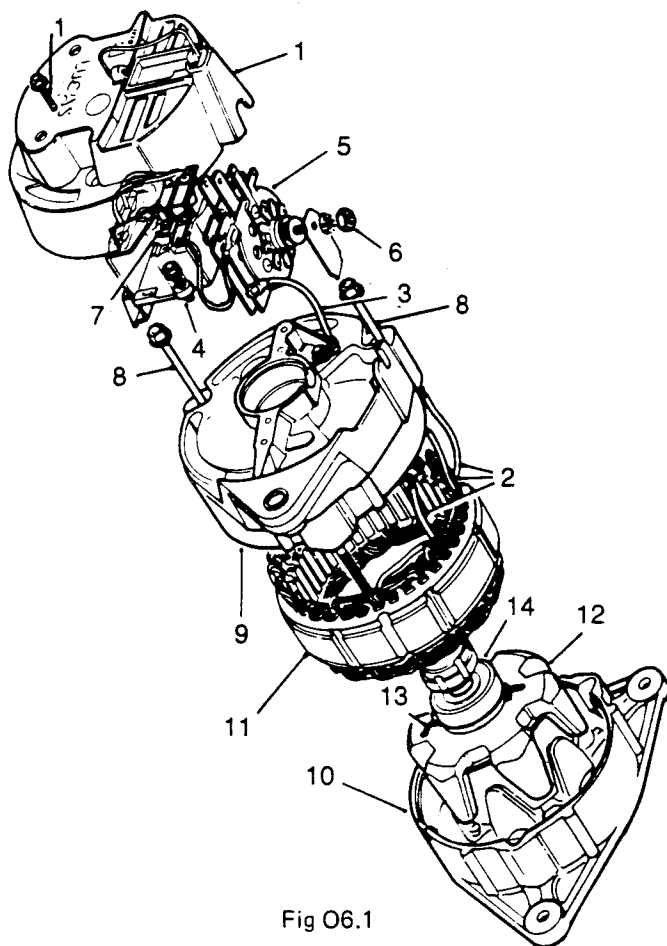

Fig O6.1
- (2) Refer to Fig O6.1. Withdraw two retaining screws and remove moulded slip-ring end cover (1).
- (3) Note positions of stator winding connections (2) to rectifier connecting pins.
- (4) Using thermal shunt and lightweight soldering iron (25 watt), unsolder the connections.
- (5) Note position of cable connectors to rectifier plates. Disconnect the cables (3).
- (6) Withdraw three hexagon headed screws (4) securing brushbox and regulator to slip-ring end bracket.
- (7) Remove brushbox moulding and regulator assembly (5).
(8) Slacken rectifier securing nut (6) and remove rectifier.
3. Renew brush and spring assemblies ((7) on Fig O6.1) if brushes are worn to 8 mm. To replace a brush:
6. Continue dismantling the alternator. Note that Fig O6.1 still applies.
- (1) Withdraw three through-bolts (8).
- (2) Separate the alternator into its major components:
- a. Slip-ring and bracket (9).
- b. Drive end bracket, rotor, fan and pulley (10).
- c. Stator laminations and windings (11).
- (3) Separate the rotor (12) from the drive end bracket by removing the pulley, fan and shaft key.
- (4) Press the rotor shaft from the bearing.
7. Remove the slip-ring end bearing: (Fig O6.1 still applies).